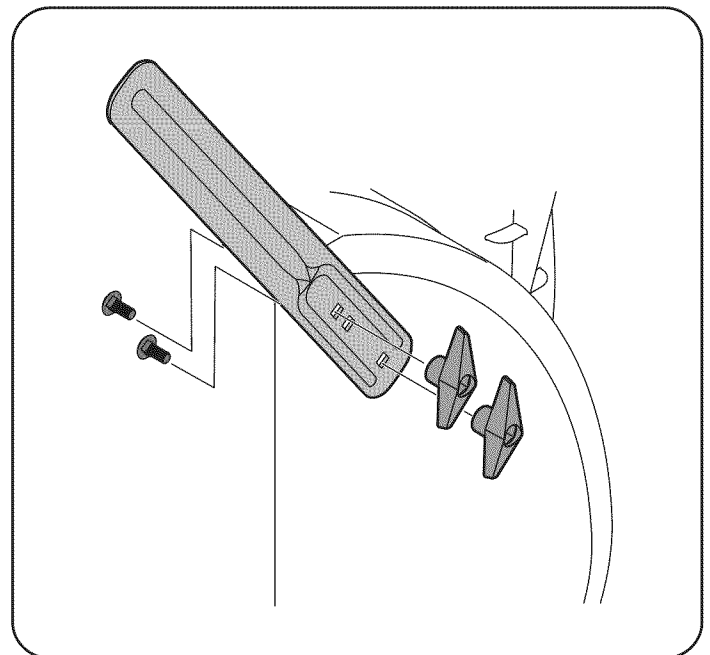

Figure 14
3. Attach the drift cutters with the screws and wing knobs removed earlier. See Figure 14.